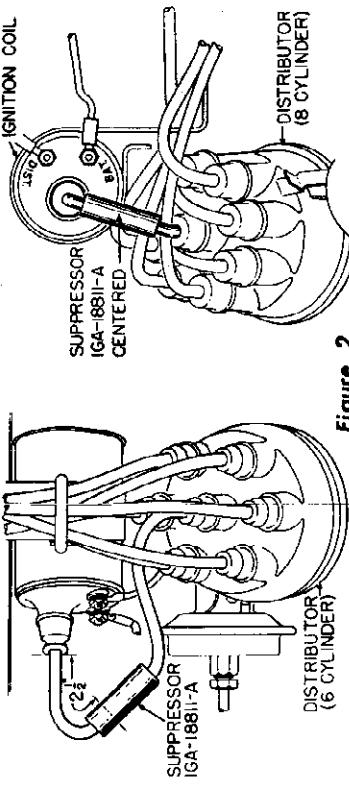

Figure 2
2. Cut the high tension wire that runs from the Ignition Coil to the center hole of the Distributor Cap (make the cut  $2\frac{1}{2}$  inches from the coil on six cylinder cars, and  $1\frac{1}{2}$  inches on eight cylinder cars). See figure 2. Remove the wire from the Coil and screw the cut end of the wire into Suppressor 1GA-18811-A. Screw the other end of the Suppressor on the cut end of the Distributor wire, and replace the wire in the Ignition Coil.